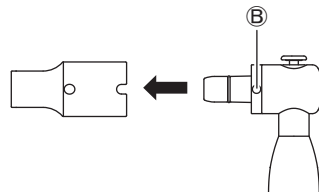

Fig. 34
- 6** Remove the Spray Adaptor for Slim from the EZ Spray Grip by depressing the release button **(B)** on the EZ Spray Grip (Fig. 34).